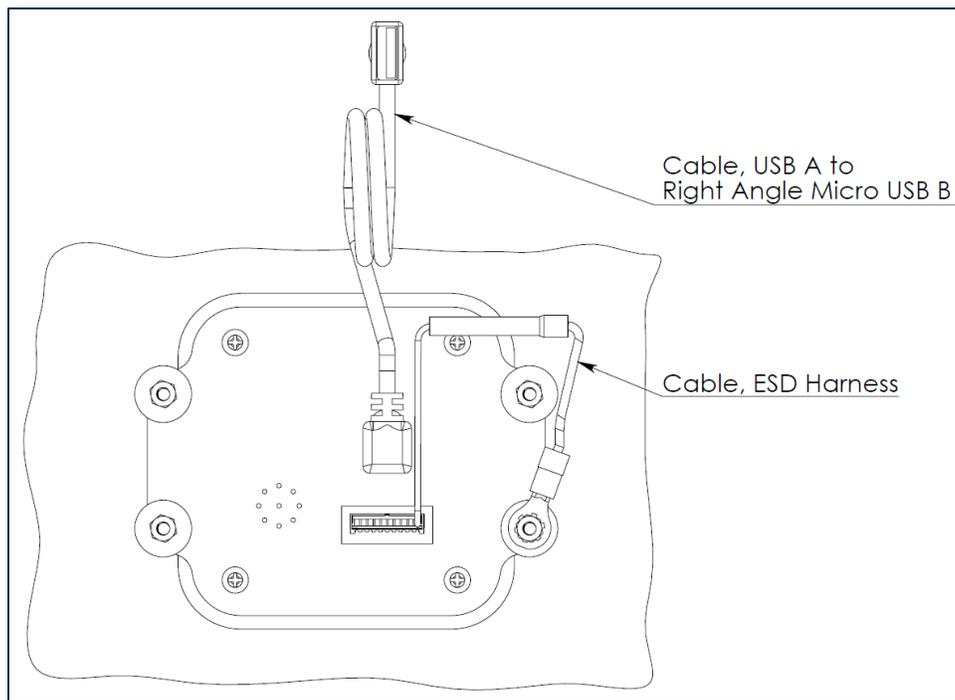

Figure 2-1 - Cable Configurations for Earth Ground
- Bring in earth ground through pin 10 of the **UART Port [J6]**. This can be done using an O-ring connector at the other end of the cable, to be mounted to the nearest available earth ground, such as an earth grounded enclosure (see **Figure 2-1**). If there is no enclosure, or if the enclosure does not provide earth ground, use a custom harness to bring in earth ground from another source.